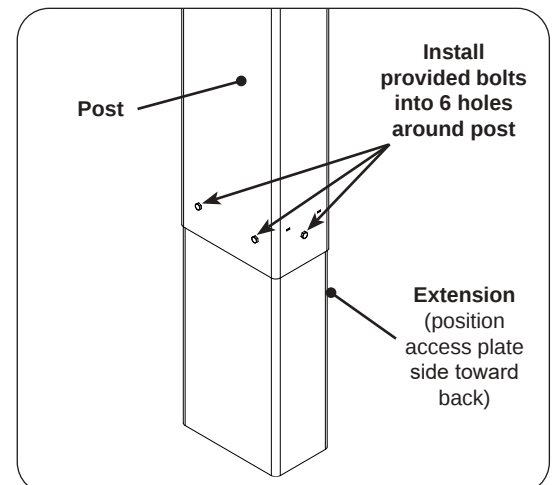

Fig. 29-3 Install extension to post
1. Attach the extension to the bottom of the grill post so that the open portion is facing the same direction as the access plate and the five holes in the extension line up with the six (6) weld-nuts in the post (see Fig. 29-3).